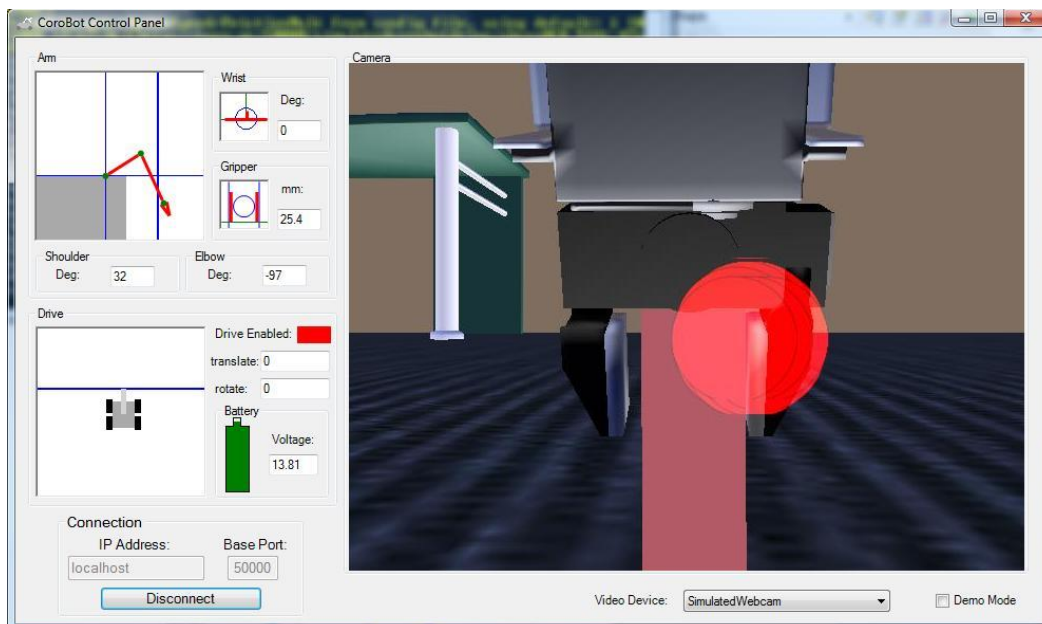

Figure 6: Gripper is positioned around both sides of an object.
- To grab an object with the gripper, drive the robot forward with the arm located slightly above the object. You should notice that red IR dots are focused directly on the object. Move close enough so the arm is positioned above the object. At this point, a blue line should appear in the arm window. This represents the position of the object. When you are aligned directly above it, you can lower the arm until the gripper is open around both sides of the object. (See Figure 6)